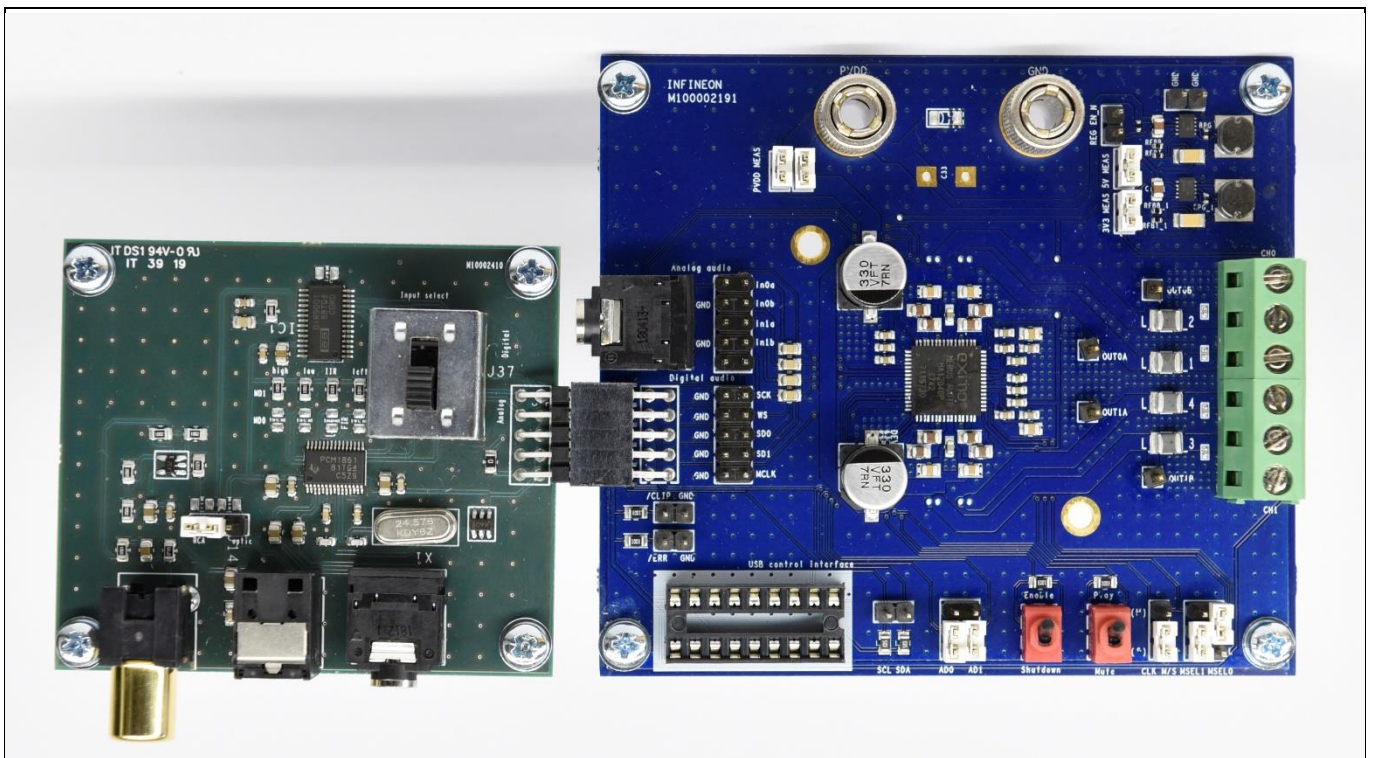

Figure 4 Step 3: connect the I²S interface board to the EVAL_AUDIO_MA12040P/MA12070P
- 3) Connect the I²S interface board to an EVAL_AUDIO_MA12040P/MA12070P, see Figure 4.